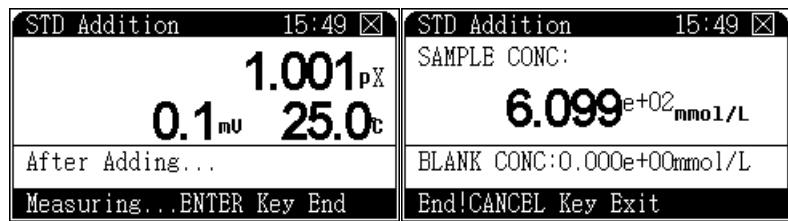

Figure 32 Final screen
- 9 When the reading becomes stable, press [Enter]. The meter prompts to end the process and shows the calculated sample concentration. See **Figure 32**.